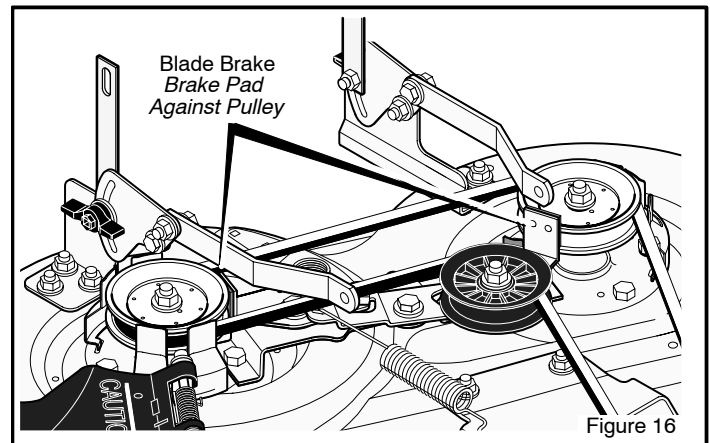

Figure 16
8. Move the **blade rotation control** to the **DISENGAGE** position. Stop the engine. Disconnect the wire from the spark plug. Check the operation of the **blade brake**. Rotate the pulleys with your hand. Make sure the **brake pads** are pressed tightly against the pulleys (Figure 16).